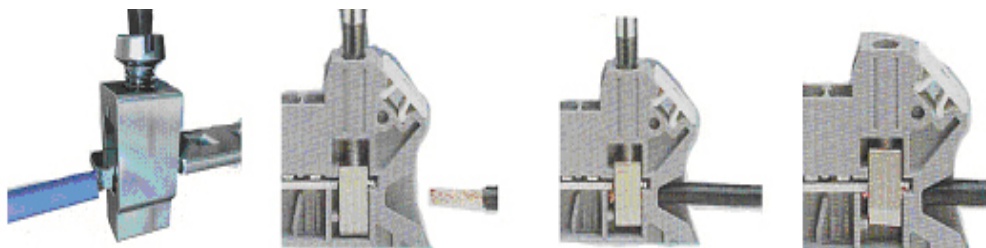

Figure 5-1 Sketch map of wiring method of wiring terminal
3. As required in the engineering design, connect the control wire to the wiring terminal plate. the wiring method is shown as Figure 5-1.